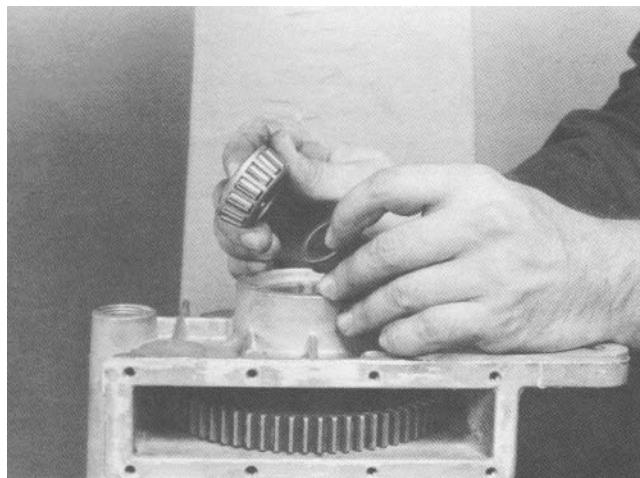

Figure 44
8. Install the outer pinion spacer with the chamfer towards the pinion splines and position the new outer bearing cone on the pinion shaft (Fig. 44).